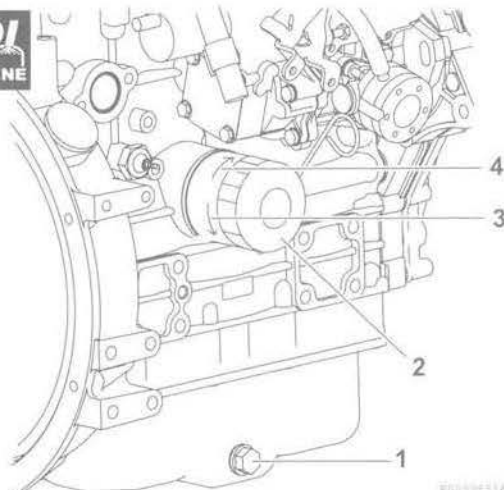

Figure 9
6. Remove the oil drain plug (1, **Figure 9**) from the engine oil pan. Allow oil to drain.
7. After all oil has been drained from the engine, reinstall the oil drain plug (1, **Figure 9**) and tighten to 40 - 47 ft-lb (53.9 - 63.7 N·m, 5.5 - 6.5 kgf·m).
1. Turn the engine oil filter (2, **Figure 9**) counterclockwise (3, **Figure 9**) using an oil filter wrench.
3. Lightly coat the gasket on the new oil filter with engine oil. Install the new engine oil filter manually by turning it clockwise (4, **Figure 9**) until it contacts the mounting surface. Tighten to 14 - 17 ft-lb (19.6 - 23.5 N·m, 2.0 - 2.4 kgf·m) or one additional turn using the oil filter wrench.